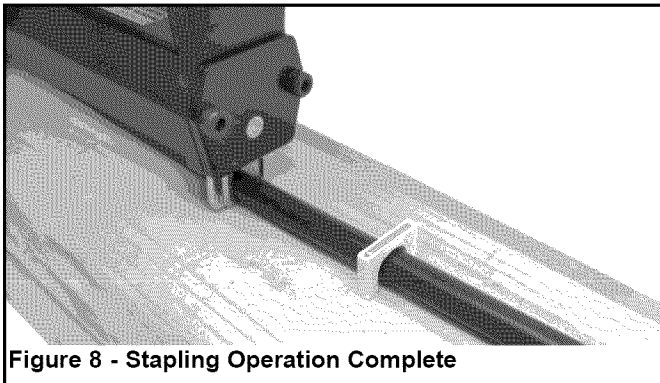

Figure 8 - Stapling Operation Complete
- Figure 8 shows the staple fastened to the cable. Repeat as needed.